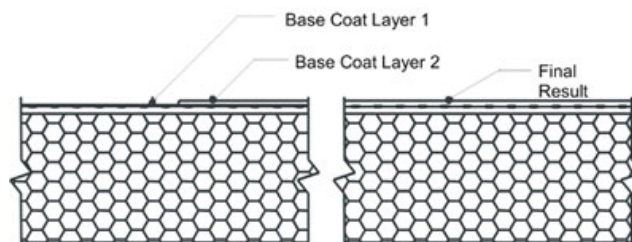

Fig. 13
- a. The base coat shall be applied such that the resulting overall minimum base coat thickness is sufficient to **fully embed** the reinforcing mesh. The recommended method is to apply the base coat in two (2) passes.
- 3) Allow the base coat mixture to take up until firm to the touch. Trowel a second tight coat of the base coat mixture over the first coat to fully cover the reinforcing mesh - Figure 13. The result should be such that the reinforcing mesh is approximately centered within the base coat thickness. Do not allow the first pass to completely dry prior to the second pass application or an excessive amount of base coat mixture will be necessary to fully coat the wall surface.